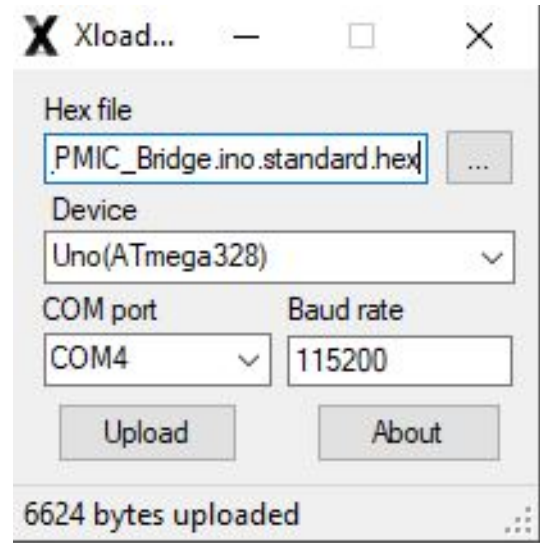

Figure 5: Xloader
5. Install the Xloader application software to load the hex file into the Arduino Uno board. See Figure 5.